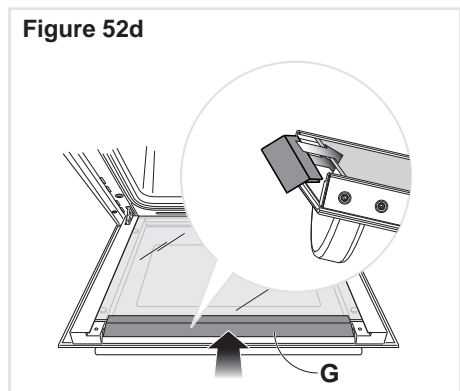

Figure 52d
- Gently push the air deflector "G" back into place (fig. 52d).